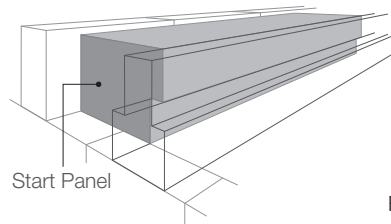

Fig. 1
2. The TS Start Panel should be held adjacent to the inner skin of the wall. The first beam in the bay is then moved into position to support this panel as shown in fig.1.